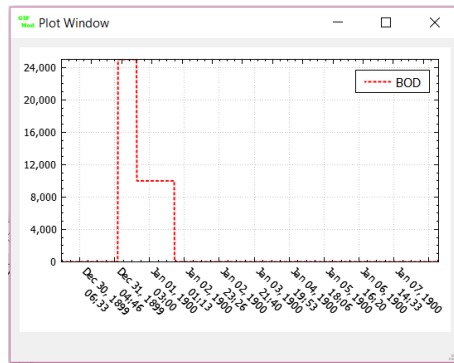

Figure 4: BOD concentration variation in the inflow
- Choose the file that was created as the value for the **Inflow time-series** property of the pond block. To visualize the BOD concentration in the inflow, right click on the file name that was selected and then click on *BOD*. The graph that will appear look like figure 4.